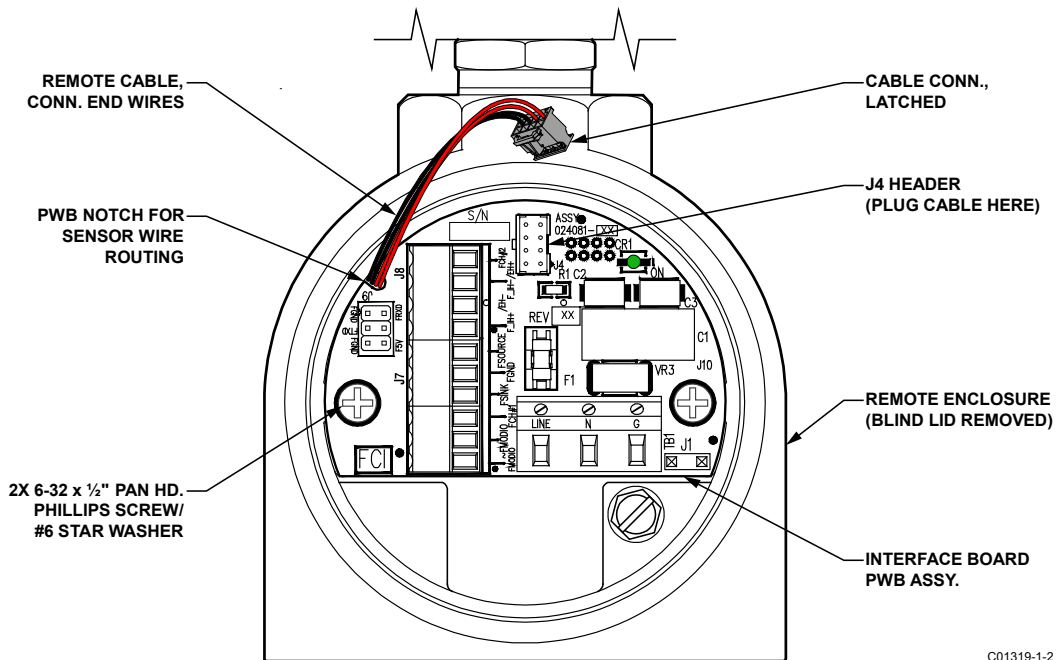

Figure 12 – Remote Enclosure Interface Board Connector J4 Detail (AC Version Shown)
10. Place remote cable in notch on curved edge of interface board PWB (with connector on component side of PWB) then reinstall interface board. See Figure 12 on page 14.